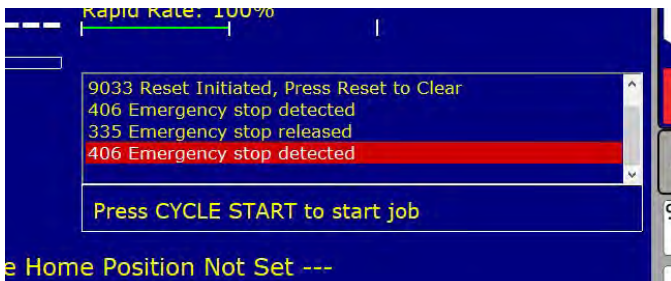

FIGURE 6
- With the E-stop activated, the control will show "406 Emergency stop detected" (see Figure 6).